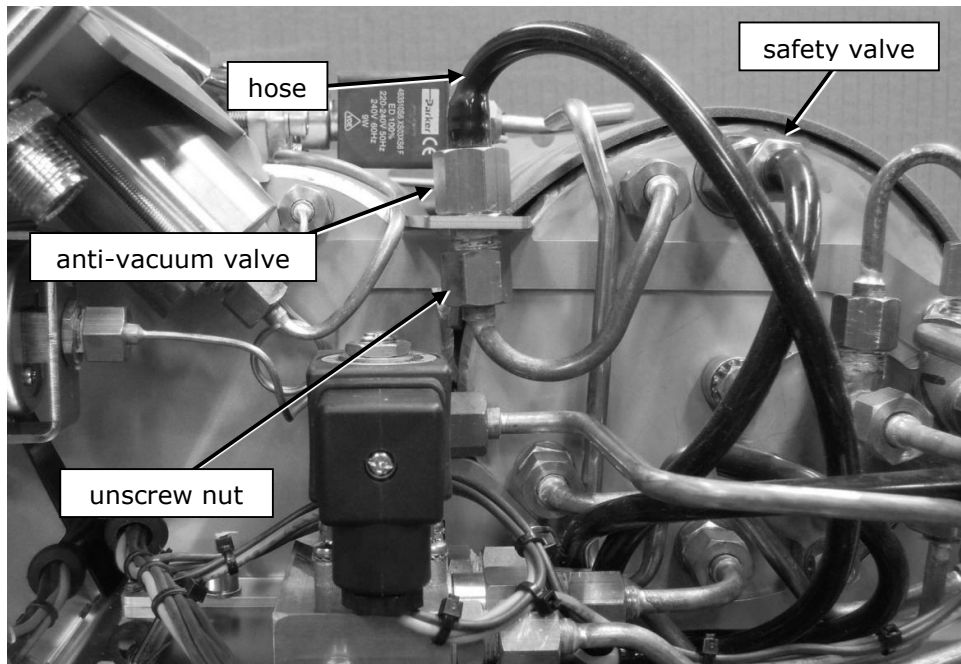

Figure 13. Showing anti-vacuum valve and nut to unscrew for replacement. Also showing position of safety valve.
4. Pull the black silicone (drain-) hose from the anti-vacuum valve (see figure 13).
2. Pull black silicone drain hose from safety valve (see figure 13).
4. Pull black silicone drain hose from the safety valve (see figure 13).